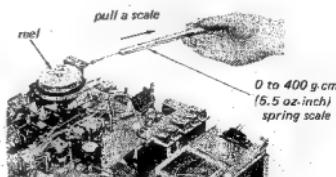

Fig. 3-12. FWD and REV back tension torque adjustment
2. Measure the back tensions by pulling the 0 to 400 g (14 oz) spring scale at approximately 9.5 cm/s (3-3/4 ips) speed in FWD [REV] mode. See Fig. 3-12. It should be 200 to 240 g-cm (2.78 to 3.32 oz. inch).
2. Measure the back tension by pulling the 0 to 400 g (14 oz) spring scale at approximately 9.5 cm/s (3-3/4 ips) speed in FF [REW] mode. See Fig. 3-12. It should be 60 to 80 g.cm (0.83 to 1.1 oz inch).